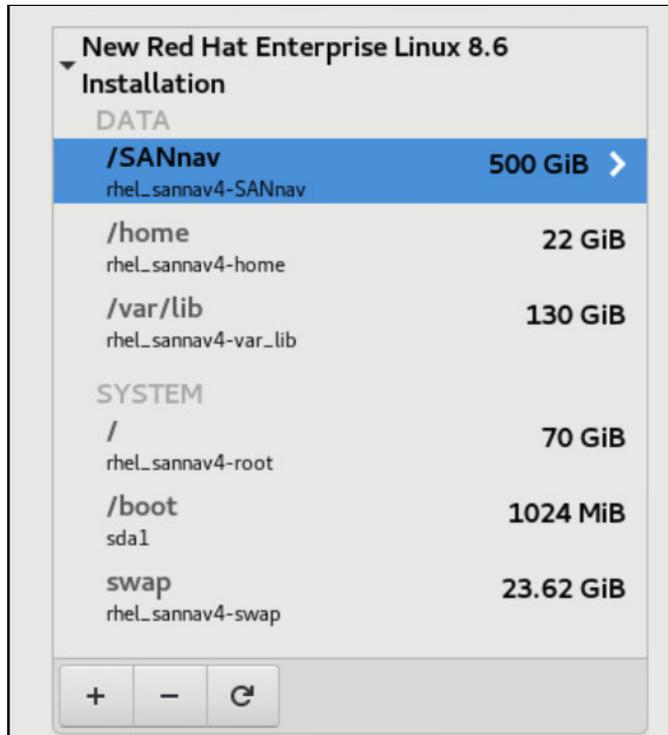

Figure 3-4 Linux partitions
- ▶ The image in Figure 3-4 on page 31 shows an example of a SANnav installation for up to 3000 ports by using a 500 GB partition for the <sannav_home> directory and a 130 GB /var/lib partition for the Docker installations directory <home_docker>.